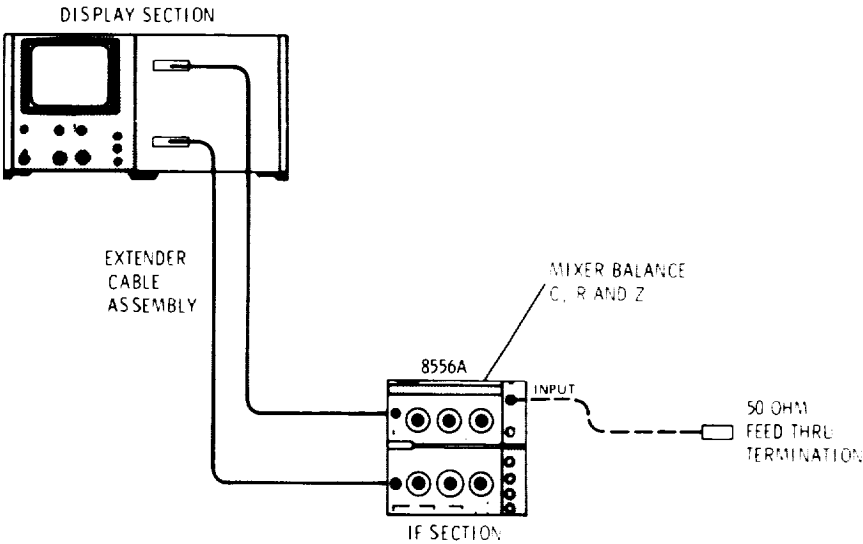

Figure 5-4. Mixer Balance Adjustments Test Setup
- 1. Extend LF and IF Sections on Extender Cable Assembly as shown in Figure 5-4. The A6 assembly should be mounted in chassis with all screws in place. Connect 50 Ohm Feed Thru Termination to analyzer INPUT.